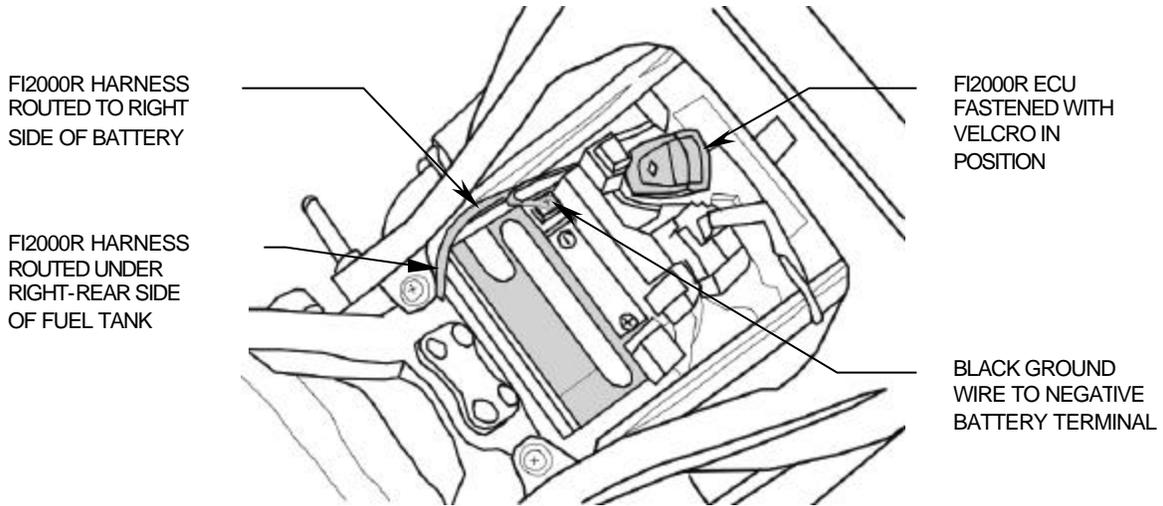

FIGURE 2
5. Temporarily place the Fi2000R housing and harness on top or near the battery, see Figure 2. Route the harness on the right side of the battery and underneath the fuel tank. Route the 6 pin connectors forward and to the left towards the 6 pin connector that was previously disconnected in step 4.
7. Using the supplied Velcro pads, place the module in the position shown, in Figure 2. Attach the black ground wire from the Fi2000R to the bolt securing the battery ground wire. Lower the gas tank to stock position. Before reinstalling the seat, verify connections.
8. Remove the door from the Fi2000R module to expose the LED's. Verify the wire connections by, (1), turning the ignition on while watching the 3 LED's. They will all light up for a few seconds, and then go off. This is correct. If there are no lights visible, make sure the side stand is up, bike is in neutral, clutch is in and handlebar engine switch is set to run. If there are still no lights visible, re-check that all connectors are fully engaged and the ground wire is connected correctly. (2), after achieving a steady light from all three LED's, start the motorcycle; the green light should now be the only LED on. If all three LED's are still on after start up, verify the injector connectors are correctly attached. Reattach the access door when finished and install the remaining components. **NOTE:** Make sure the ignition is turned off before changing any connections.